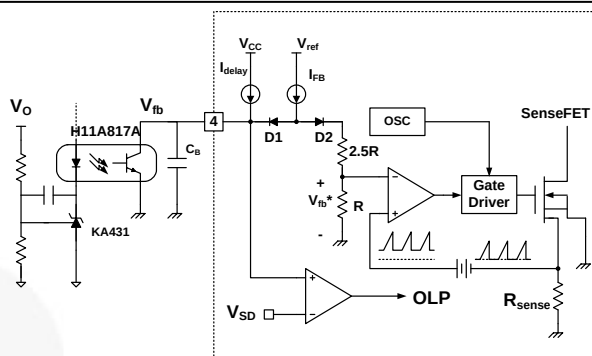

Figure 32. Pulse Width Modulation (PWM) Circuit
**3. Feedback Control:** The FSCQ series employs current mode control, as shown in Figure 32. An opto-coupler (such as Fairchild's H11A817A) and shunt regulator (such as Fairchild's KA431) are typically used to implement the feedback network. Comparing the feedback voltage with the voltage across the  $R_{sense}$  resistor, plus an offset voltage, makes it possible to control the switching duty cycle. When the reference pin voltage of the shunt regulator exceeds the internal reference voltage of 2.5 V, the opto-coupler LED current increases, pulling down the feedback voltage and reducing the duty cycle. This typically occurs when input voltage is increased or output load is decreased.
**3.1 Pulse-by-Pulse Current Limit:** Because current mode control is employed, the peak current through the SenseFET is limited by the inverting input of the PWM comparator ( $V_{fb}^*$ ) as shown in Figure 32. The feedback current ( $I_{FB}$ ) and internal resistors are designed so that the maximum cathode voltage of diode  $D_2$  is about 2.8 V, which occurs when all  $I_{FB}$  flows through the internal resistors. Since  $D_1$  is blocked when the feedback voltage ( $V_{fb}$ ) exceeds 2.8 V, the maximum voltage of the cathode of  $D_2$  is clamped at this voltage, thus clamping  $V_{fb}^*$ . Therefore, the peak value of the current through the SenseFET is limited.